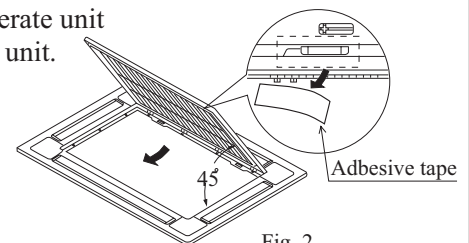

Fig. 2
- ② Lift it up for about 45 degree and remove it from ornament. Tear off adhesive tape fixing air filter on the back of the air inlet grill. (Refer to Fig. 2)
(2) Remove cover plate at corner